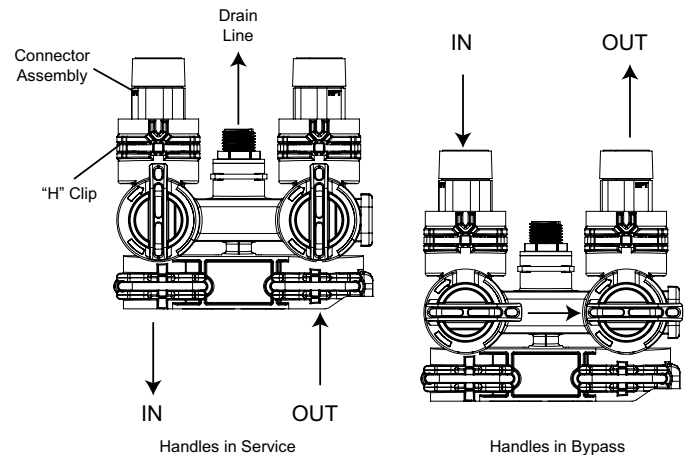

Figure 6 Bypass Operation
**IMPORTANT:** The bypass valve is shipped to you in the bypass position (Figure 6 Bypass Operation). When the valve is in bypass water will not enter the softening tank. The water in the building will not be treated. Figure 6 Bypass Operation, shows the handles in the service position.
Once you have selected your location check the direction of the waterflow in the main pipe. Figure 6 Bypass Operation can be used to plan the new plumbing assembly.